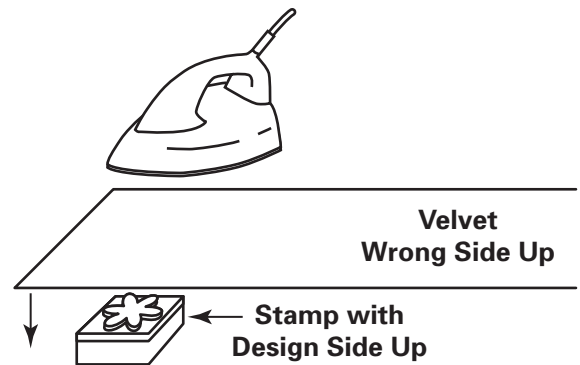

Fig. 8-3
3. To emboss the velvet, place the stamp right side up on an ironing board. Place the velvet right side down over the stamp and lightly mist the wrong side with water. Use a dry iron set on medium heat. Lower the iron straight down and firmly press the velvet on the stamp for 20 seconds. Be careful not to slide the iron while pressing. (If steam holes press into the fabric over the stamp, they will leave an impression in the fabric. Using an iron without steam holes on the bottom surface or pressing only where steam holes won't be involved can prevent this problem.) Lift the iron straight up. Let the fabric cool completely. Then remove the fabric from the stamp. (Fig. 8-3)